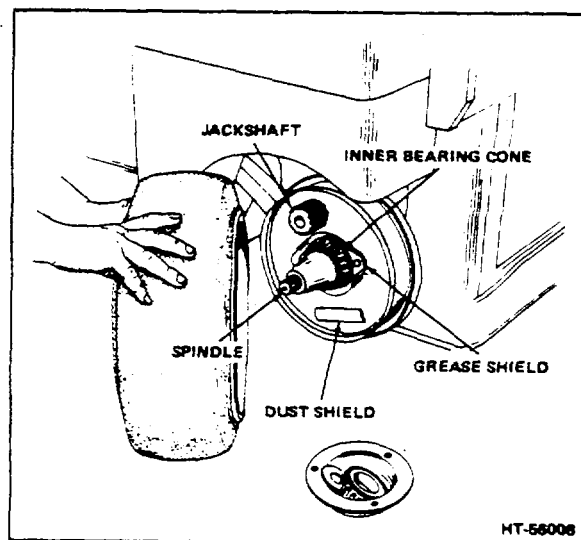

Figure 2-2. Wheel Removed
4. Remove inner bearing cone (Fig 2-2) and grease shield from spindle.